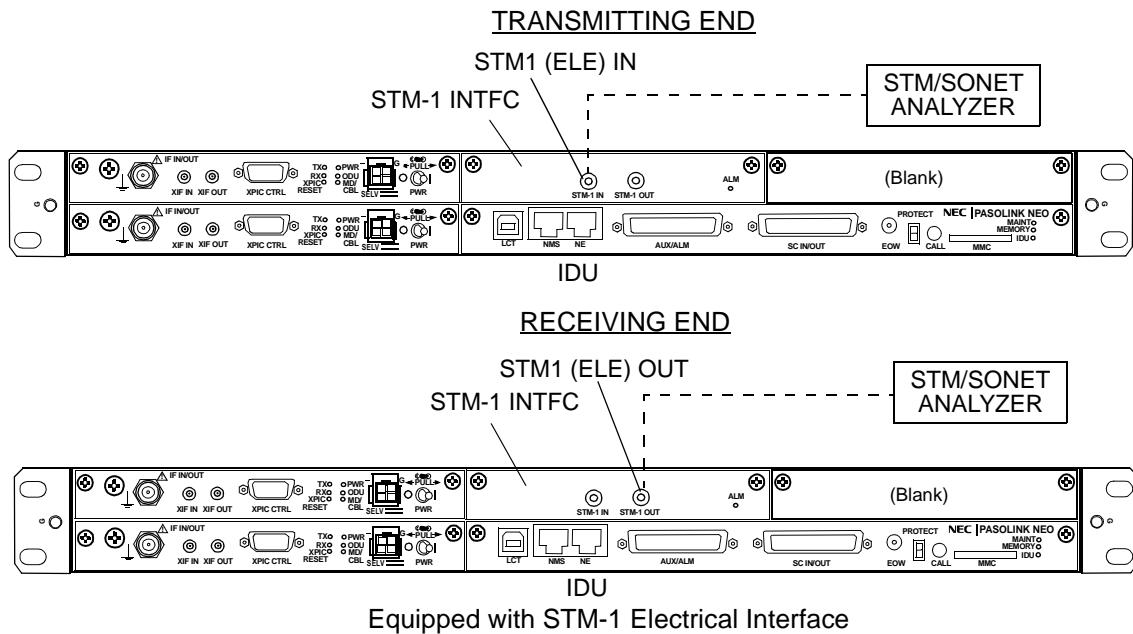

Fig. 3-7 BER Measurement for STM-1 Signal
- 1 At the transmitting end, disconnect STM-1 signal cable from the STM1 IN connector on the STM-1 INTFC (see Fig. 3-7),
- 2 At the receiving end, disconnect the STM-1 signal cable from the STM1 OUT connector on the STM-1 INTFC (see Fig. 3-7),